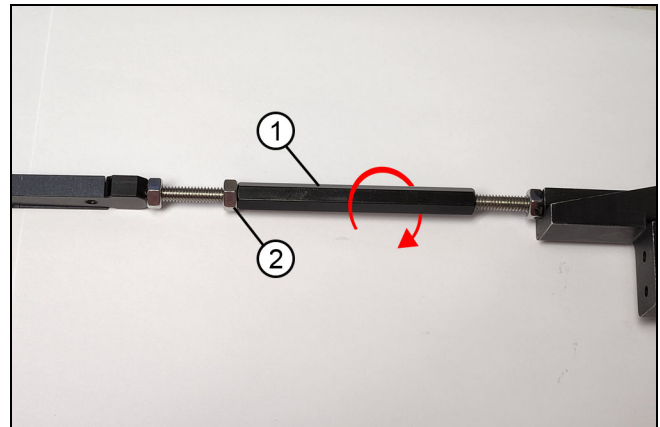

Figure 49
9. Tighten the lock nut against the turnbuckle barrel. See Figure 49.